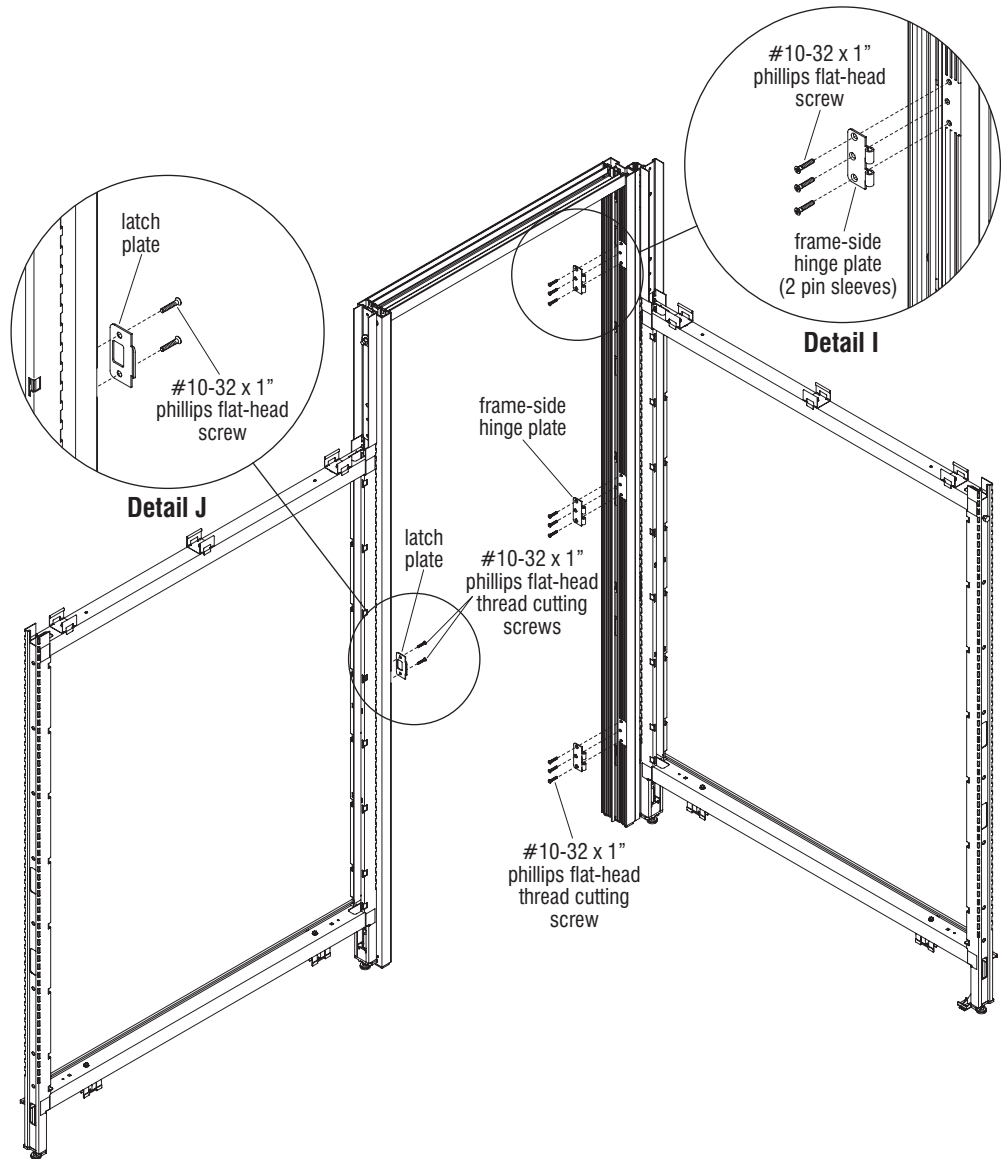

Figure 4
10. Install three frame-side hinge plates (with two pin sleeves - Detail I) using #10-32 x 1" Phillips flat head thread-cutting screws provided. Be sure to secure screws tight into frame, but take care to not strip the threads (Figure 4 & Detail I).
11. Position latch plate to other side of door frame as illustrated, correct to door swing and install with two #10-32 x 1" Phillips flat head-thread cutting screws (Figure 4 & Detail J).